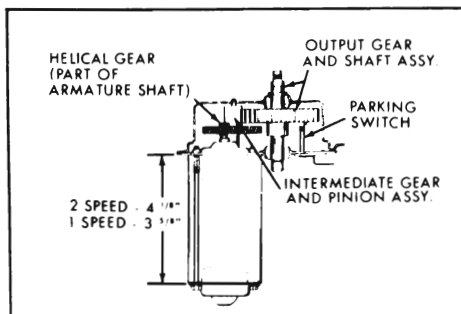
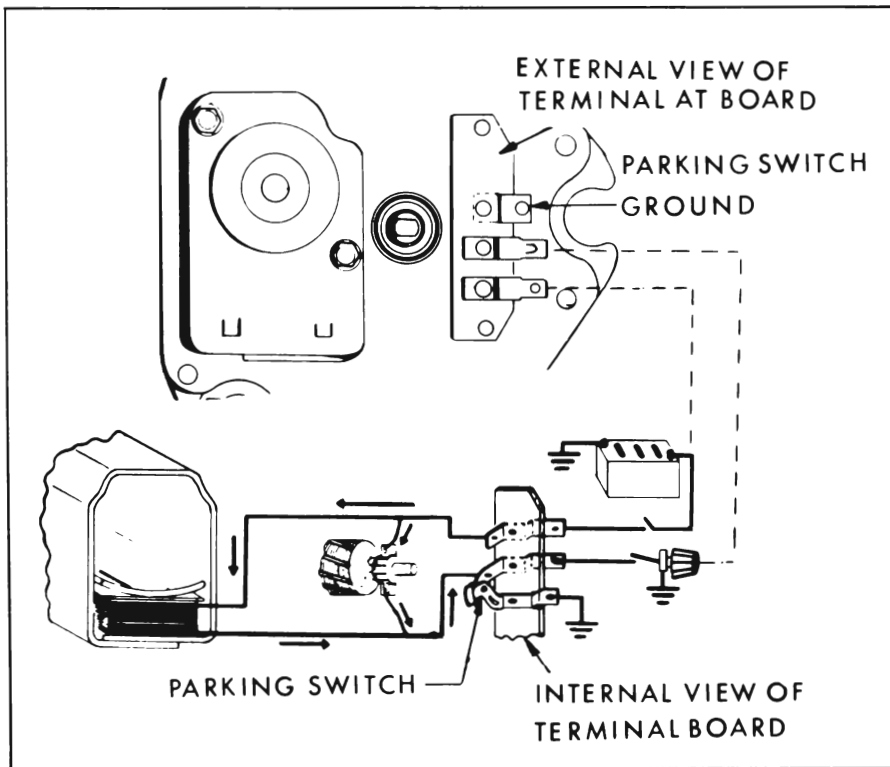

Figure 10-72—Typical View of Gear Train
Figure 10-74—Single Speed Wiper Wiring Diagram
The gear train consists of a helical gear at end of armature shaft. The helical gear drives an intermediate gear and pinion assembly, the pinion of which drives an output gear and shaft assembly. See Figure 10-72. The crank arm is attached to the shaft of the output gear and drives the two wiper transmissions through connecting link arms.
and stopping of the wiper. The switch mounted on the dash controls starting the wiper. The park switch, which is located in the wiper gear box (Figure 10-72), controls stopping the wiper. The operation of the park switch is explained in the following paragraph. (Refer to the wiring diagram in Figure 10-74).
(1) Make sure wiring harness is properly attached to wiper terminals and dash switch. See Figure 10-74.
(2) Make sure wiper ground strap is properly connected to wiper and car body.
(3) Make sure switch is mounted securely in dash.
(4) Check fuse.